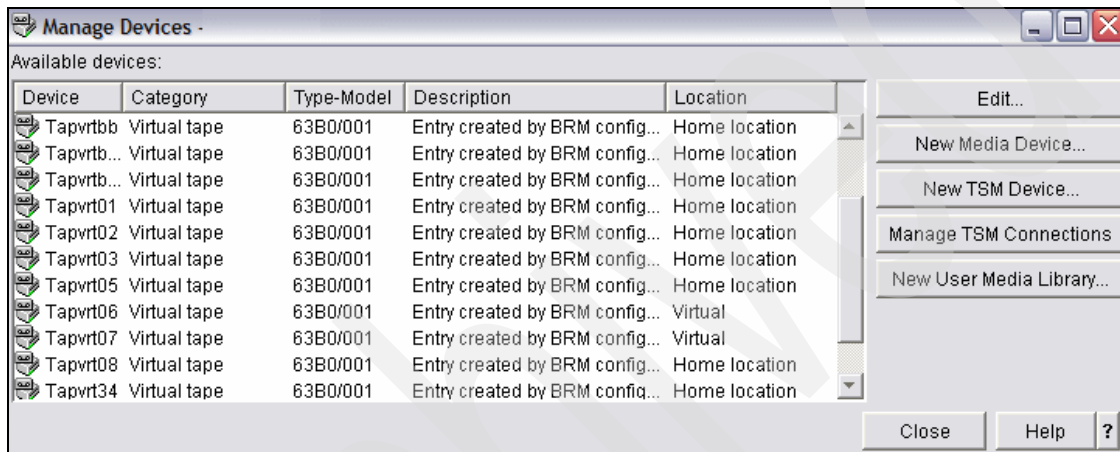

Figure 8-41 List of tape drives
1. Bring up manage devices and click **Edit...**, as shown in Figure 8-41.